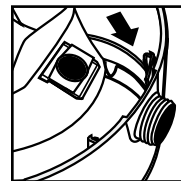

FIGURE 31
43. Slide deflector with collector bag attached into retainer guide. **FIGURE 31.**